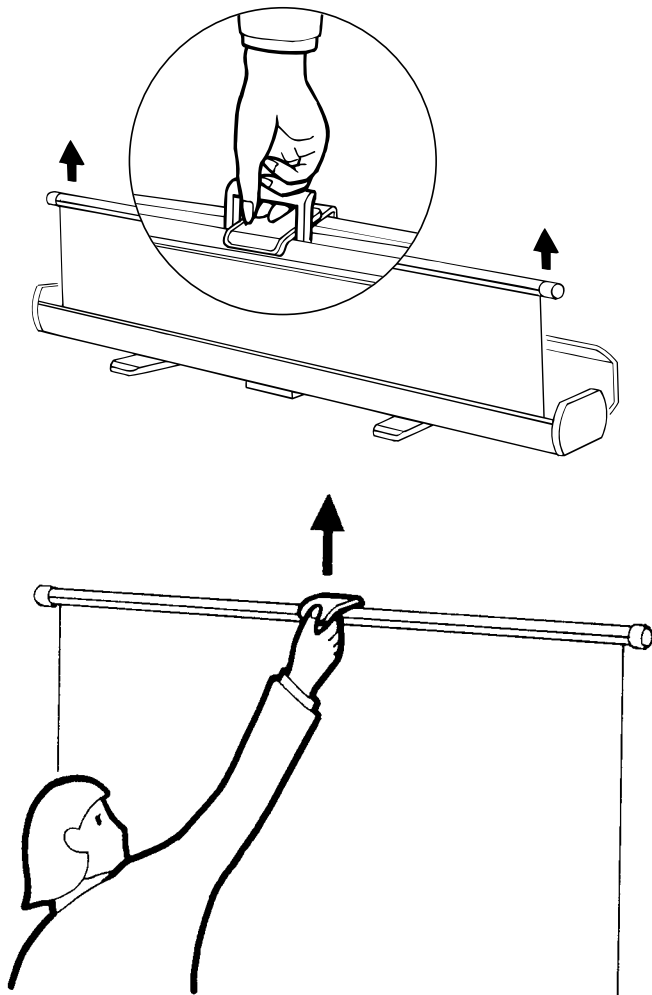

Figure 3
3. Pull up the screen slowly at a certain height using the Lifting Handle then grasp the Slat handle and raise the screen slowly keeping the slat level as you raise the screen (Figure 3).